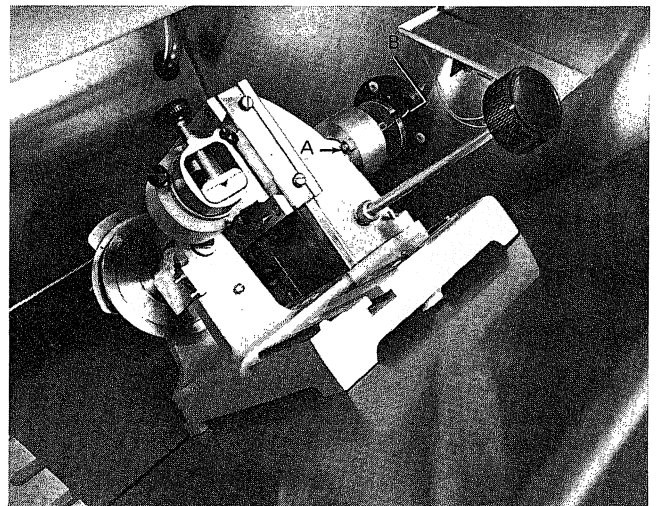

Figure 4
2. Slide the microtome to the right as far as possible. The drive coupling, A, Figure 4, of the microtome will seat against the cabinet drive hub, B, Figure 4.